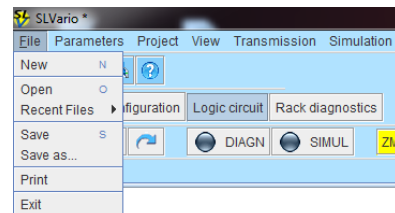

Fig. 1-1
- ▶ Open application, if necessary enter password for authorization to use the application. (Fig. 1-1)